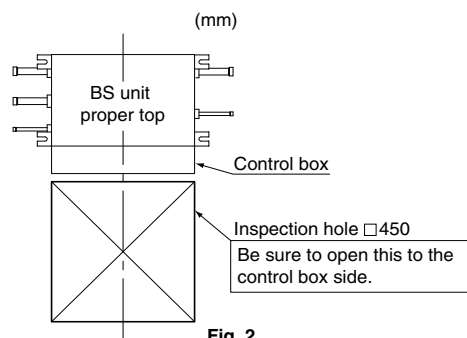

Fig. 2
- Locations where an inspection hole (Refer to Fig. 2) can be installed to the control box side (See Note).